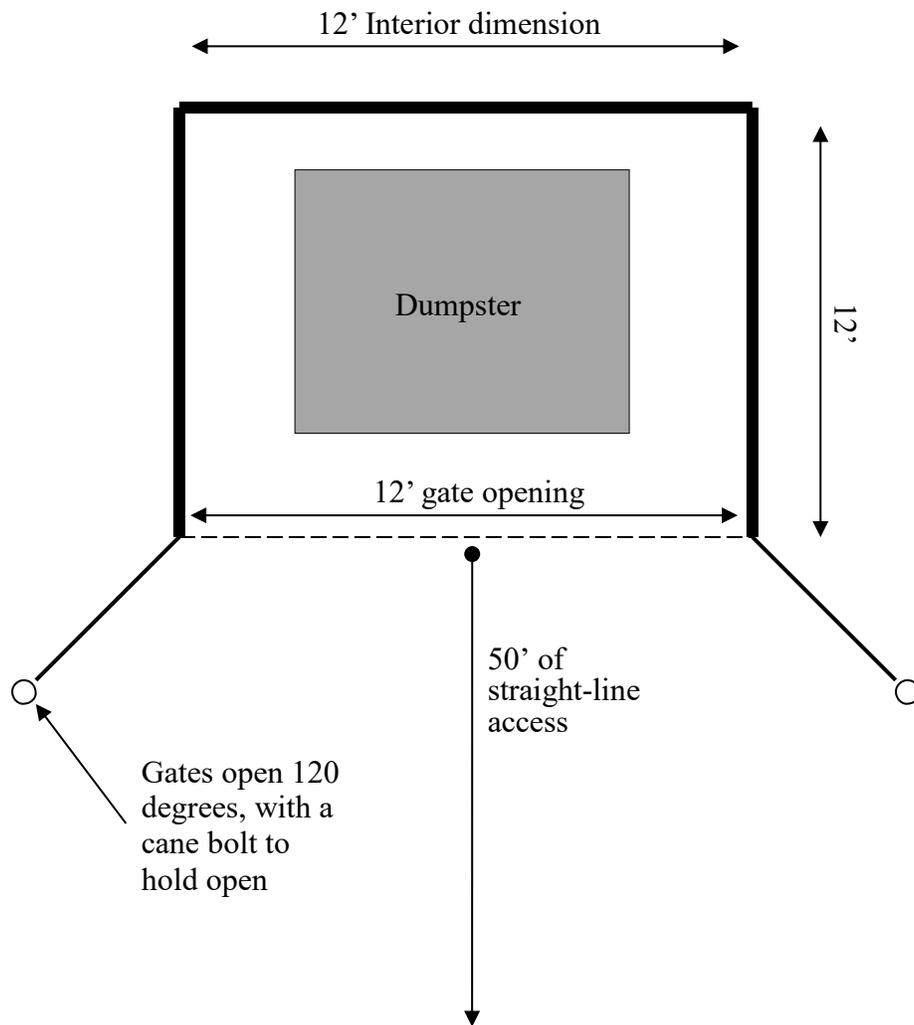

Figure 1. Typical Exterior Enclosure, Single Dumpster
- B. The size of the enclosure will depend on what types of containers are to be utilized. The following table details the required enclosure specifications for various solid waste containers available from the city’s contracted waste hauler (see Table 1 below, and Figures 1 through 4 at end).
- B. Enclosures must be located and configured so there is at least 50' of unobstructed access in front of the enclosure as measured from the center of the enclosure gates, extending to the width of the enclosure gates (see Figures 1 through 3 at end).